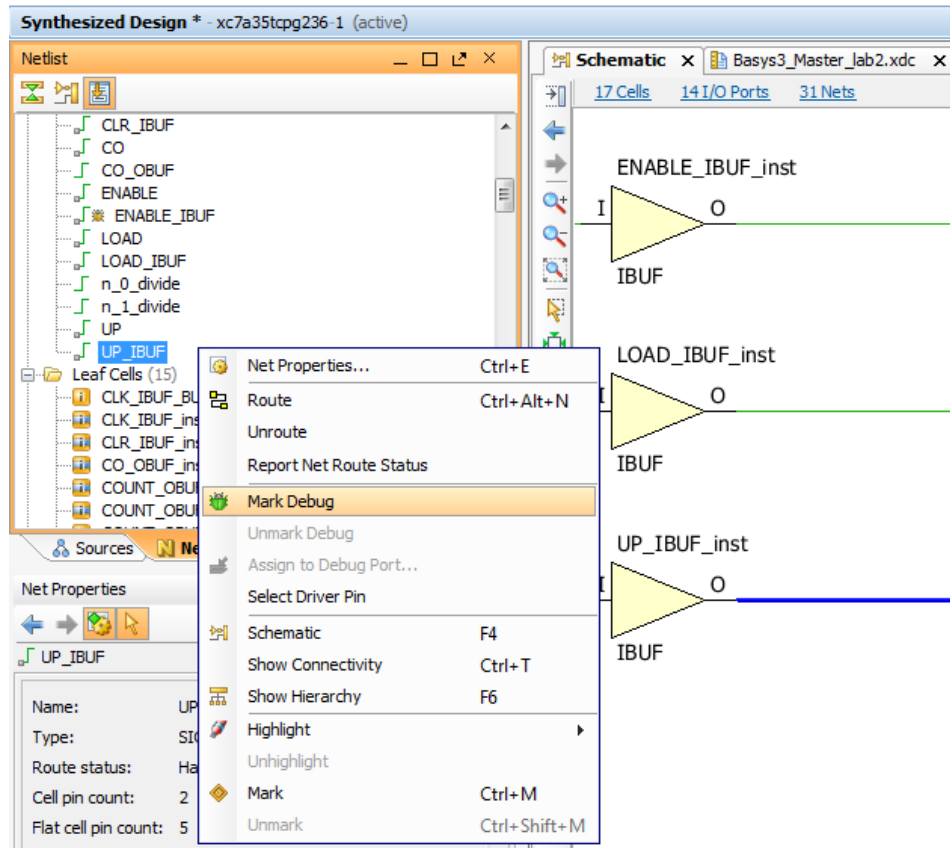

Figure 1. Marking Debug Nets from the Netlist Tab
*Note: As shown in Figure 1, in Vivado IDE, you can also see the green bug icon next to each scalar or bus, which indicates that a net has the attribute mark\_debug = true. If you see a white bug, you will need to assign a clock domain to that signal in step 3.*